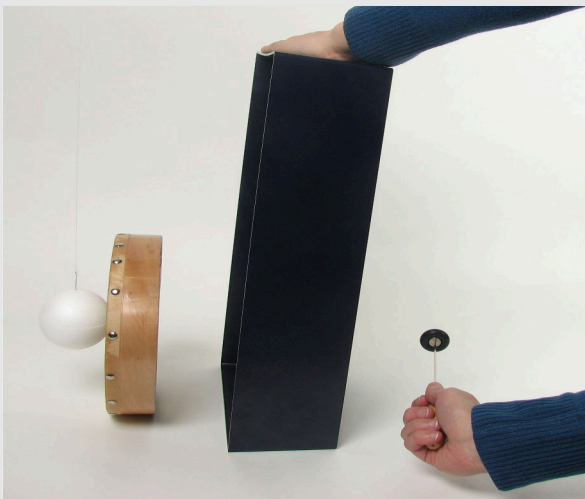

Figure 2
In this way it is easier to hold the box when the impact is made with the impact hammer (Fig. 2).
Variant 2 (Fig. 2)
3. Place the drum on the table (Fig. 2 is a photo without the hand) and, if possible, lift it about 1 cm afterwards.